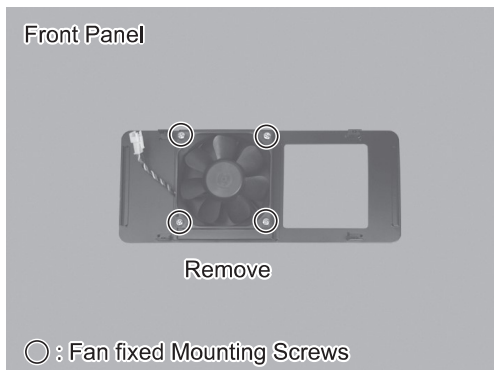

Fig. 43
- (6) Remove the FAN Mounting Screws (4pcs.) from the Case (Front Panel) of the CONTROLLER (Fig. 43).